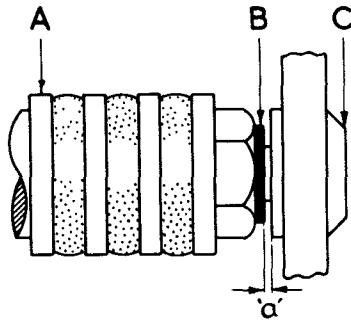
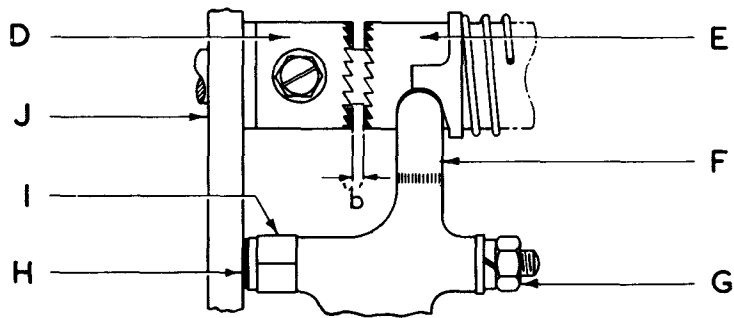

FIG. 1
FIG. 2
- (h) Teeth of camshaft clutch and driving dog:- (D, E, Fig.2).
- (i) Engaging surfaces of clutch and cam driving sleeve - (R-H end of E, Fig.2).
- (a) Clutch detent - (F, Fig.2).
11. Ease the camshaft out of its other bearing, taking note of the shims at B, Fig.1, and remove it, complete with the clutch detent F, Fig.2, and bearing plate J.